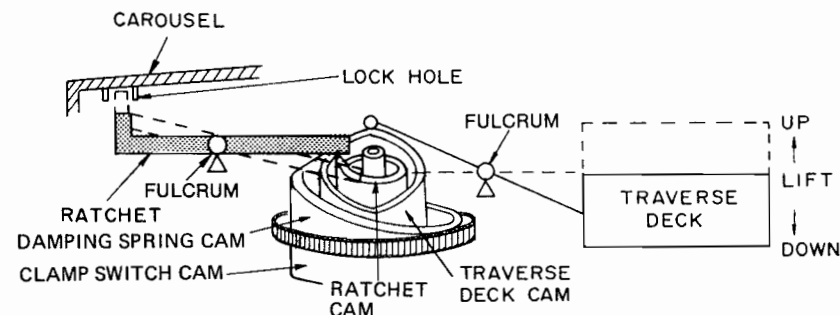

Figure 15 Traverse Deck Up/Down Construction
9. Other functions of the cam block (Refer to figure 15)